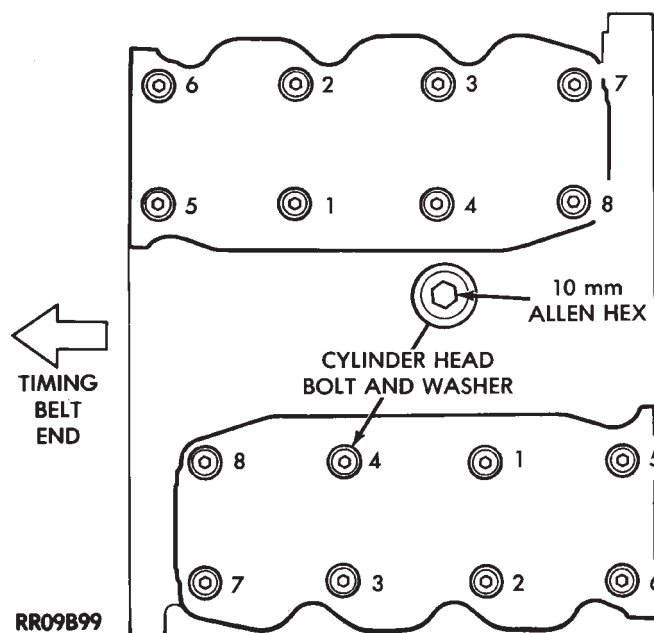

Fig. 34 Cylinder Head Bolt Tightening Sequence
(1) Clean surfaces of head and block, install head gasket over locating dowels.
(2) Install head on locating dowels.
(3) Install 10mm allen hex head bolts with washers.
(4) Tighten bolts in the order shown in (Fig. 34). When tightening the cylinder head bolts, tighten gradually, working in two or three steps and finally tighten to specified torque of 108 N·m (80 ft. lbs.).